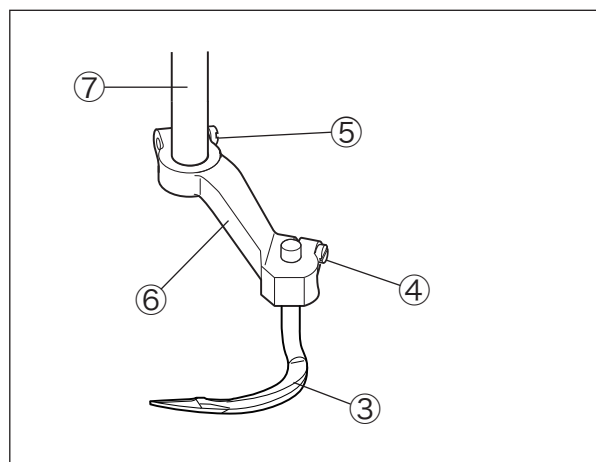

Fig. 6-32
- (1) Loosen the screws ④ and ⑤ . (Fig. 6-32)